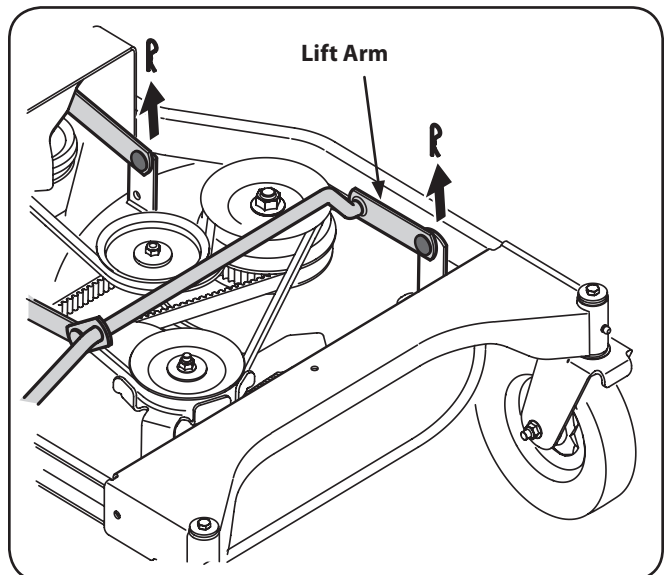

Figure 7-3
7. Looking at the cutting deck from the left side, locate and carefully remove the hairpin clips that secure the deck supports on the rear left side and front left side of the deck. See Fig. 7-3.
9. Carefully remove the front deck supports from the deck lift arms, Fig. 7-3.